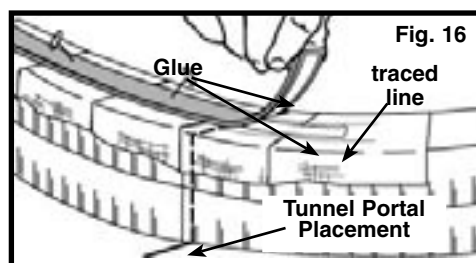

Fig. 16
- Lay Track-Bed inside Tunnel areas, keeping it centered on track tracing. Pin with Foam Nails (Fig. 16).